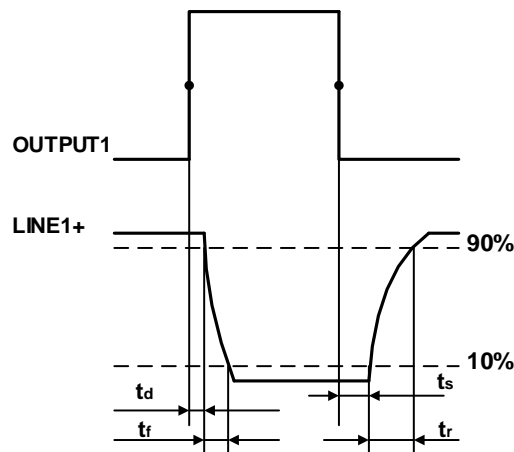

Figure 7-6 Parameter of opto-isolated output circuit
- Rising time delay =  $t_r + t_d$ :  $<50\mu s$  ( $0^\circ C \sim 45^\circ C$ ) (parameter description is shown in Figure 7-6)
- Falling time delay =  $t_s + t_f$ :  $<50\mu s$  ( $0^\circ C \sim 45^\circ C$ ) (parameter description is shown in Figure 7-6)
- Rising time delay =  $t_r + t_d$ :  $<20\mu s$  ( $0^{\circ}C \sim 45^{\circ}C$ ) (parameter description as shown in Figure 7-6)
- Falling time delay =  $t_s + t_f$ :  $<20\mu s$  ( $0^{\circ}C \sim 45^{\circ}C$ ) (parameter description as shown in Figure 7-6)